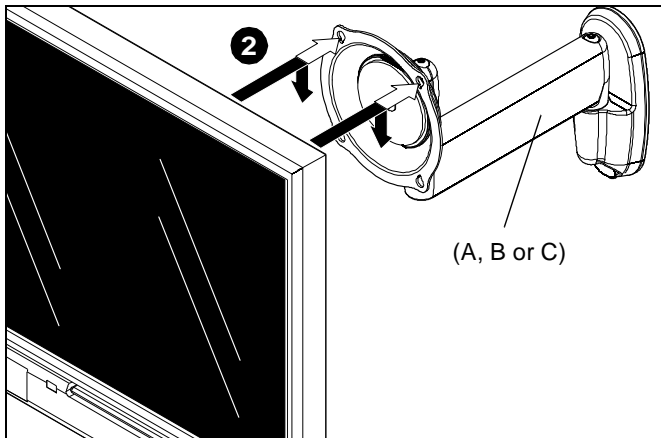

Figure 5
- Align two screws in display back with upper teardrop mounting holes in mounting plate and lower display until screws are seated in lower area of teardrop mounting holes. (See Figure 5)